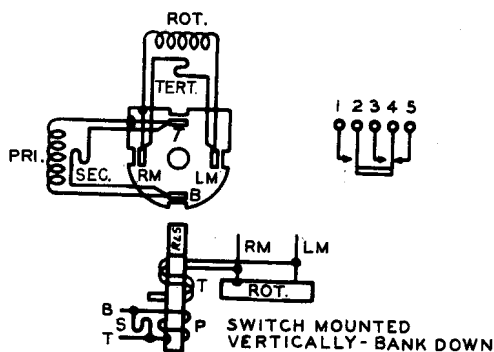

Fig. 109 – Winding and Spring Terminal Arrangement as Viewed From the Rear (terminal side) — 204-Type Selectors
**4.17 204-Type Selectors:** The contact terminals are numbered consecutively from the mounting bracket outward. The winding terminals are designated as shown in Fig. 109.